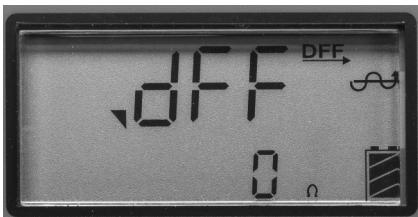

Figure 9 – Transmitter Screen
6. Connect the RED test lead to the conductor to be tested (see *Figure 9*).
1. Make sure that no one is near or touching the conductor, transmitter, leads or ground stake. Press the ON/OFF button on the transmitter to turn the transmitter ON. When the transmitter is turned on, it is set to the last used frequency. If needed, press the frequency button on the transmitter until "dFF" is shown on screen (Figure 9).